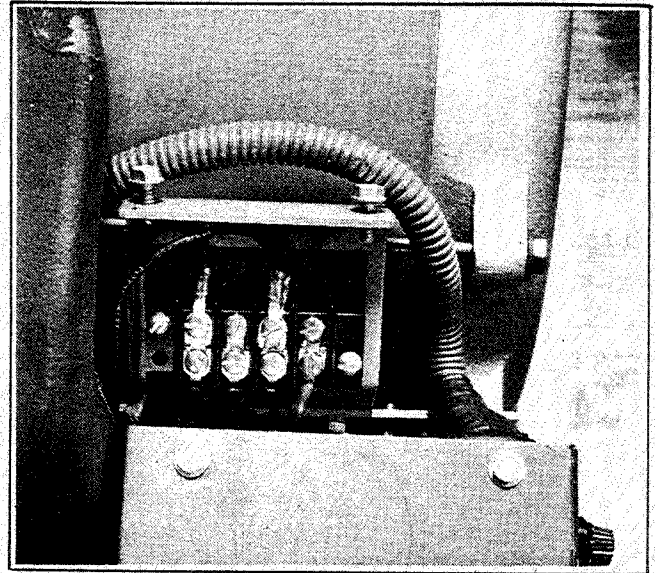

Figure 6-4. Stator Terminal Strip
1. Remove generator side cover to expose stator terminal box located behind the controller. Remove terminal box cover to access stator terminal strip. See Figure 6-4. Terminal strip lead connection on your generator may differ from that shown.